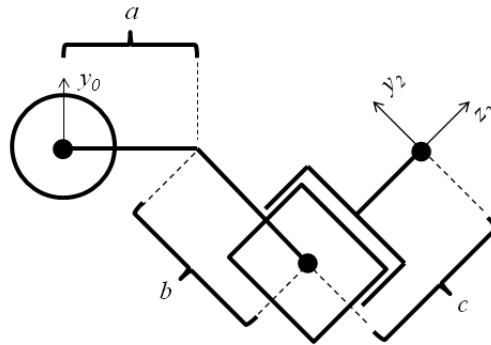

Figure 2: Top-down view of arm.
2. Consider the RR arm shown in Figure 2; this arm is similar to the arm from Question 1 except that the link has a bend of  $-45^\circ$ .